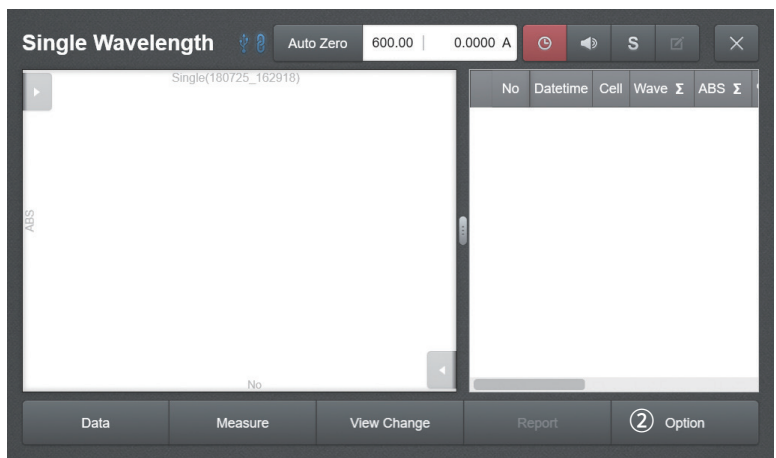

Fig. 2.12
2. [Fig. 2.12] Move to the ② **Option** and specify the measurement settings.